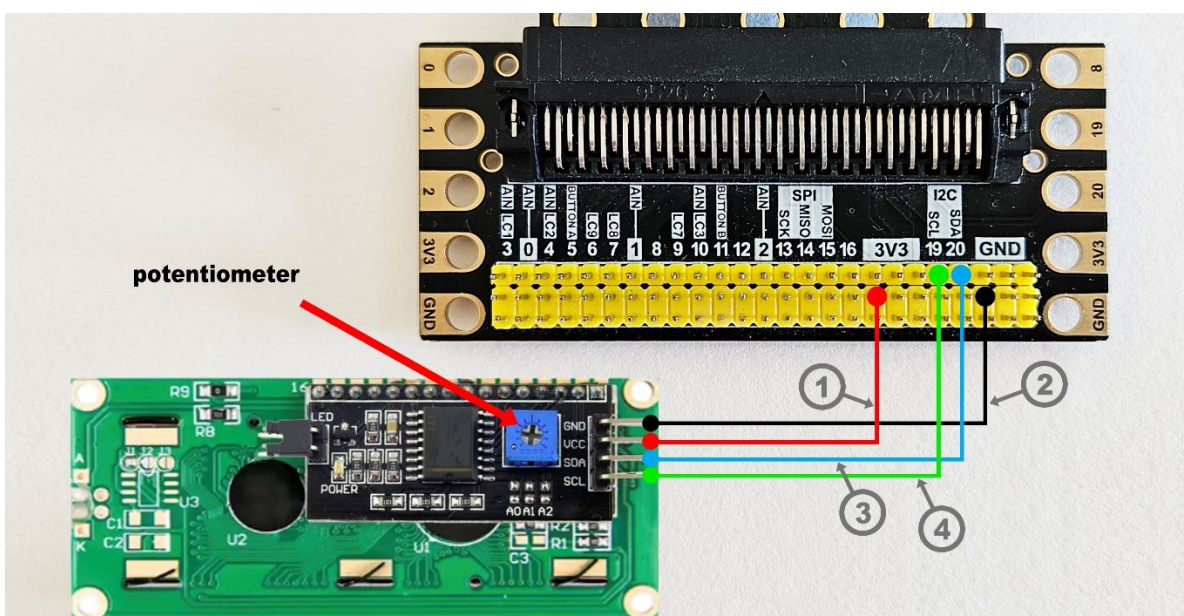

Figure 31: The circuitry for connecting the LCD screen
The following instructions are for a 16x2 LCD screen with an I2C interface module. The I2C interface simplifies the circuitry, as only four pins need to be connected to the edge connector, namely: the GND to GND (2), the Vcc to 3V3 (1), the SDA to pin 19 (3) and the SCL to pin 20 (4) (*Figure 31*).